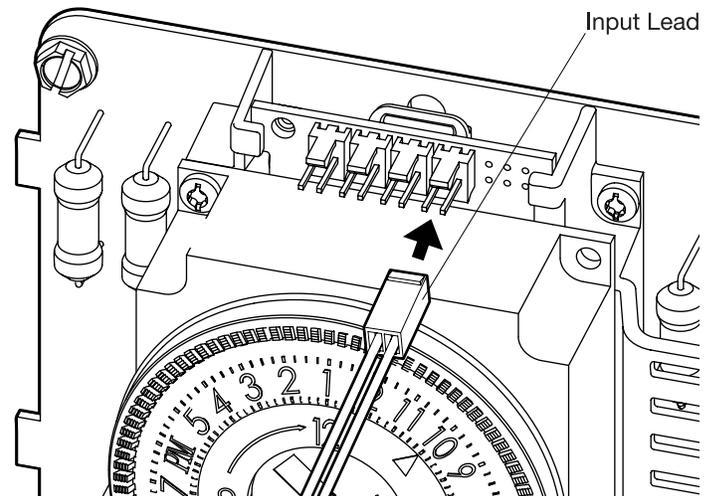

FIG. 3. Attach the Input Lead
1. Connect the input lead to the ICUBE™ module as shown in FIG. 3. The input lead may be inserted into any of the four connectors on the ICUBE™ module.